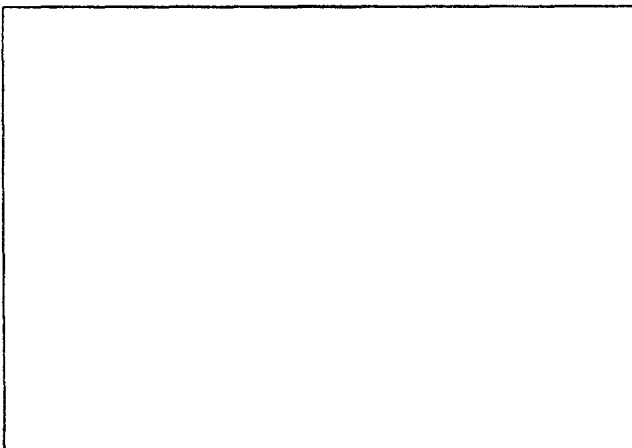

Fig.62
- D. Mark the tyre on the valve position (Fig.62), which is usually on the outer part of the wheel.